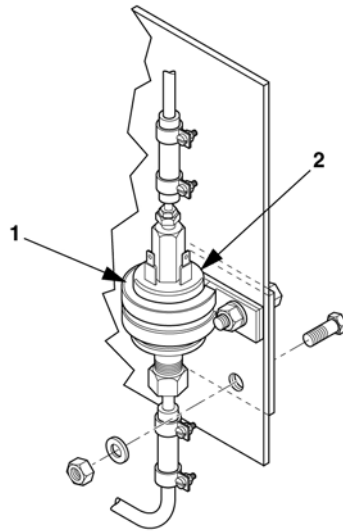

Figure 4-36. Fuel Pump Removal.
16. Remove fuel pump (1) and clamp (2), Figure 4-36. Reinstall existing hardware, but do not tighten.